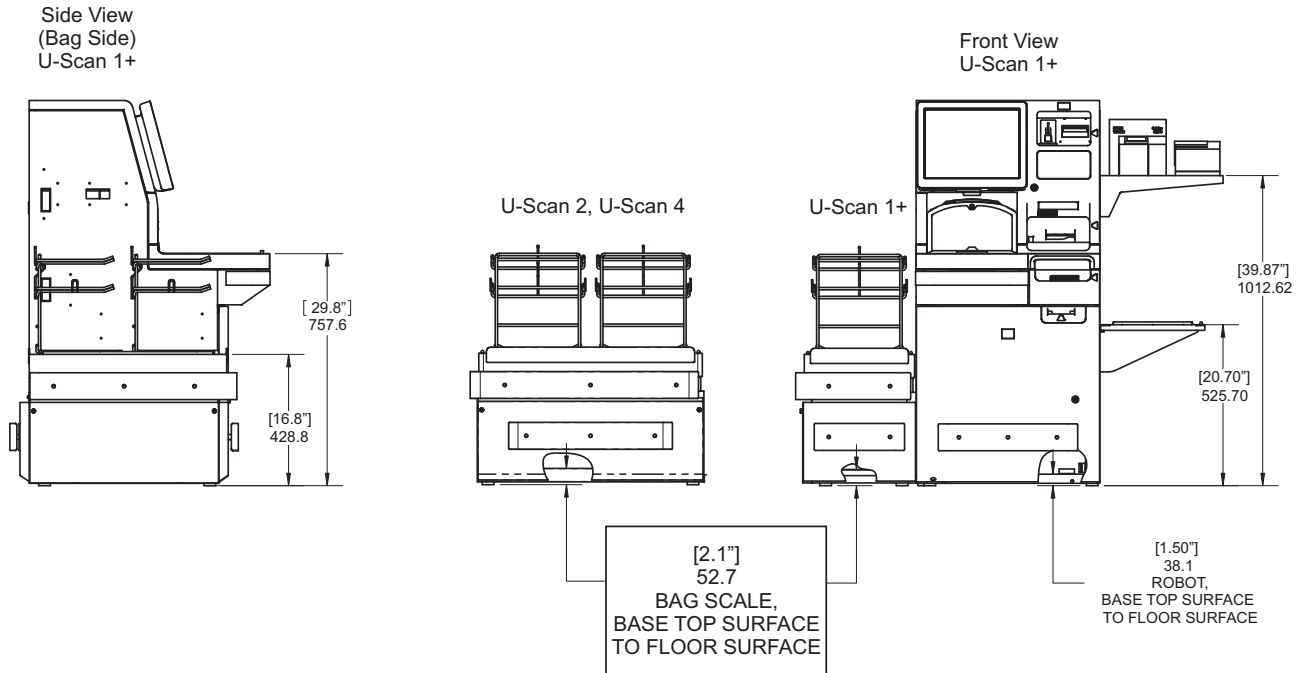

Figure 4.3 ANSI A117.1 (308.3.2) compliant standard Bag Scale vertical dimensions
**(B) Connect the units (all installations)**
1. Adjust the height to match the specifications of 2.1 inches/52.7mm base top surface to floor surface (as shown in Figure 4.3 on page 134).